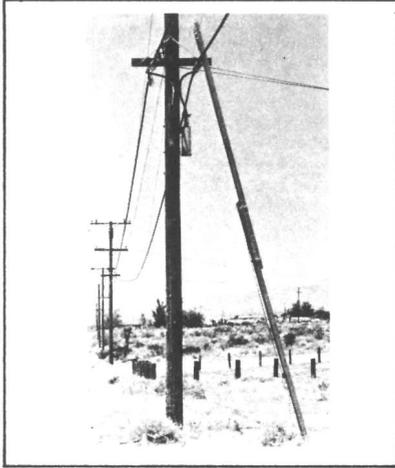

FIGURE 5.
**3.03** Always select a ladder of sufficient length for the work to be done. The ladder should be long enough so that the work can be performed when standing no higher than on the fourth rung from the top so that the side rails may be grasped conveniently and safely. Figure 5 shows a ladder of the right length.